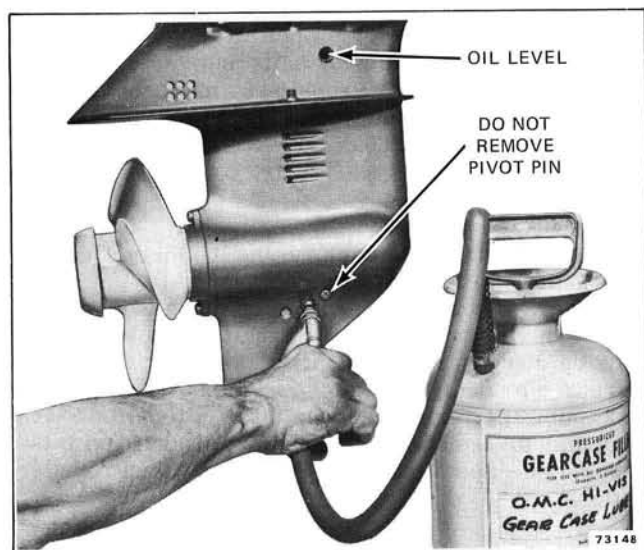

Figure 6-61. Filling Gearcase
3. Fill gearcase with OMC HI-VIS Gearcase Lube. See Figure 6-61 and Section 2, page 2-4 for proper filling procedure.